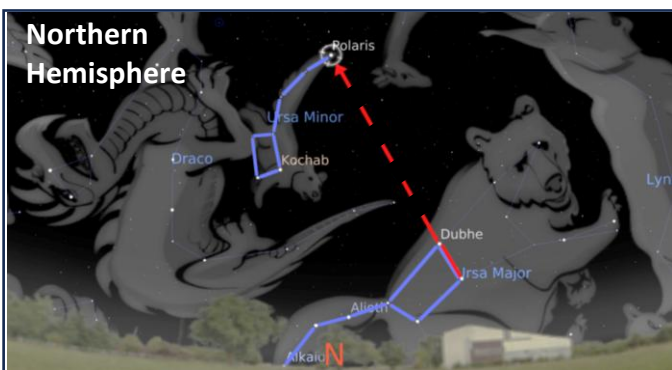

Fig. 4.15
1. **Sight the Pole:** Look through the polar scope to locate Polaris (NCP) or the Sigma Octantis (SCP) reference stars. See Fig. 4.15 or 4.16.